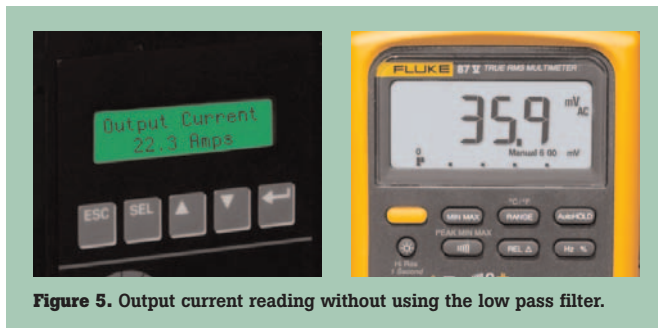
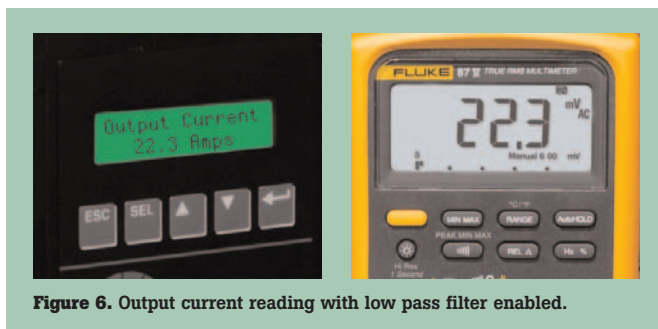

Figure 5. Output current reading without using the low pass filter.
Figure 6. Output current reading with low pass filter enabled.
- 4 Place the clamp around each of the output phase cables in succession, recording each of the readings as they are taken (see Figure 6). Since these clamps output 1 millivolt per amp, the millivolt readings shown on the 87-V display are the actual phase current readings in amps. This measurement would not be possible without the 87V's low pass filter (see Figure 5).